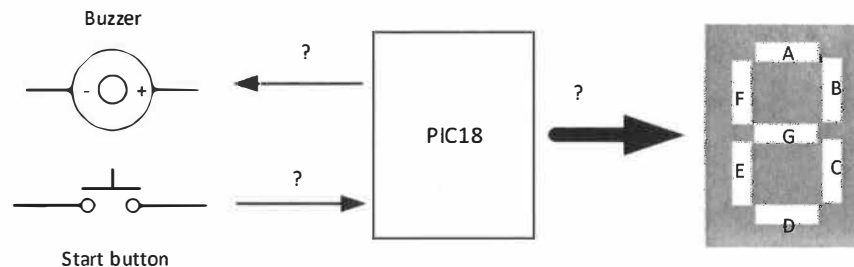

Figure B2 (a).
- B2.** You are to design a safety system for a hydraulic press machine used in heavy industry. A push button is used to start the machine. However, once the start button is pressed, machine will start operating after 8 seconds of delay. While counting 8 seconds of delay, you need to display the count of the up counter and turn on a buzzer to indicate machine is about to operate. To complete the task, you are given one push button, one buzzer and one seven segment display (common anode), and a PIC 18 Controller as shown in Figure B2(a).